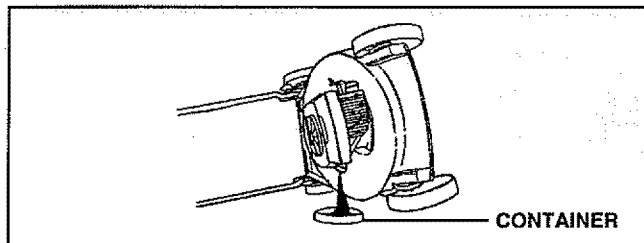

FIG. 8
**NOTE:** Although multi-viscosity oils (5W30, 10W30 etc.) improve starting in cold weather, these multi-viscosity oils will result in increased oil consumption when used above 32°F. Check your engine oil level more frequently to avoid possible engine damage from running low on oil. Change the oil after the first two hours of operation and every 25 hours thereafter or at least once a year if the lawn mower is not used for 25 hours in one year. Check the crankcase oil level before starting the engine and after each five (5) hours of continuous use. Add SAE 30 motor oil or equivalent. Tighten oil plug securely each time you check the oil level.
**TO CHANGE ENGINE OIL** (See Fig. 8)